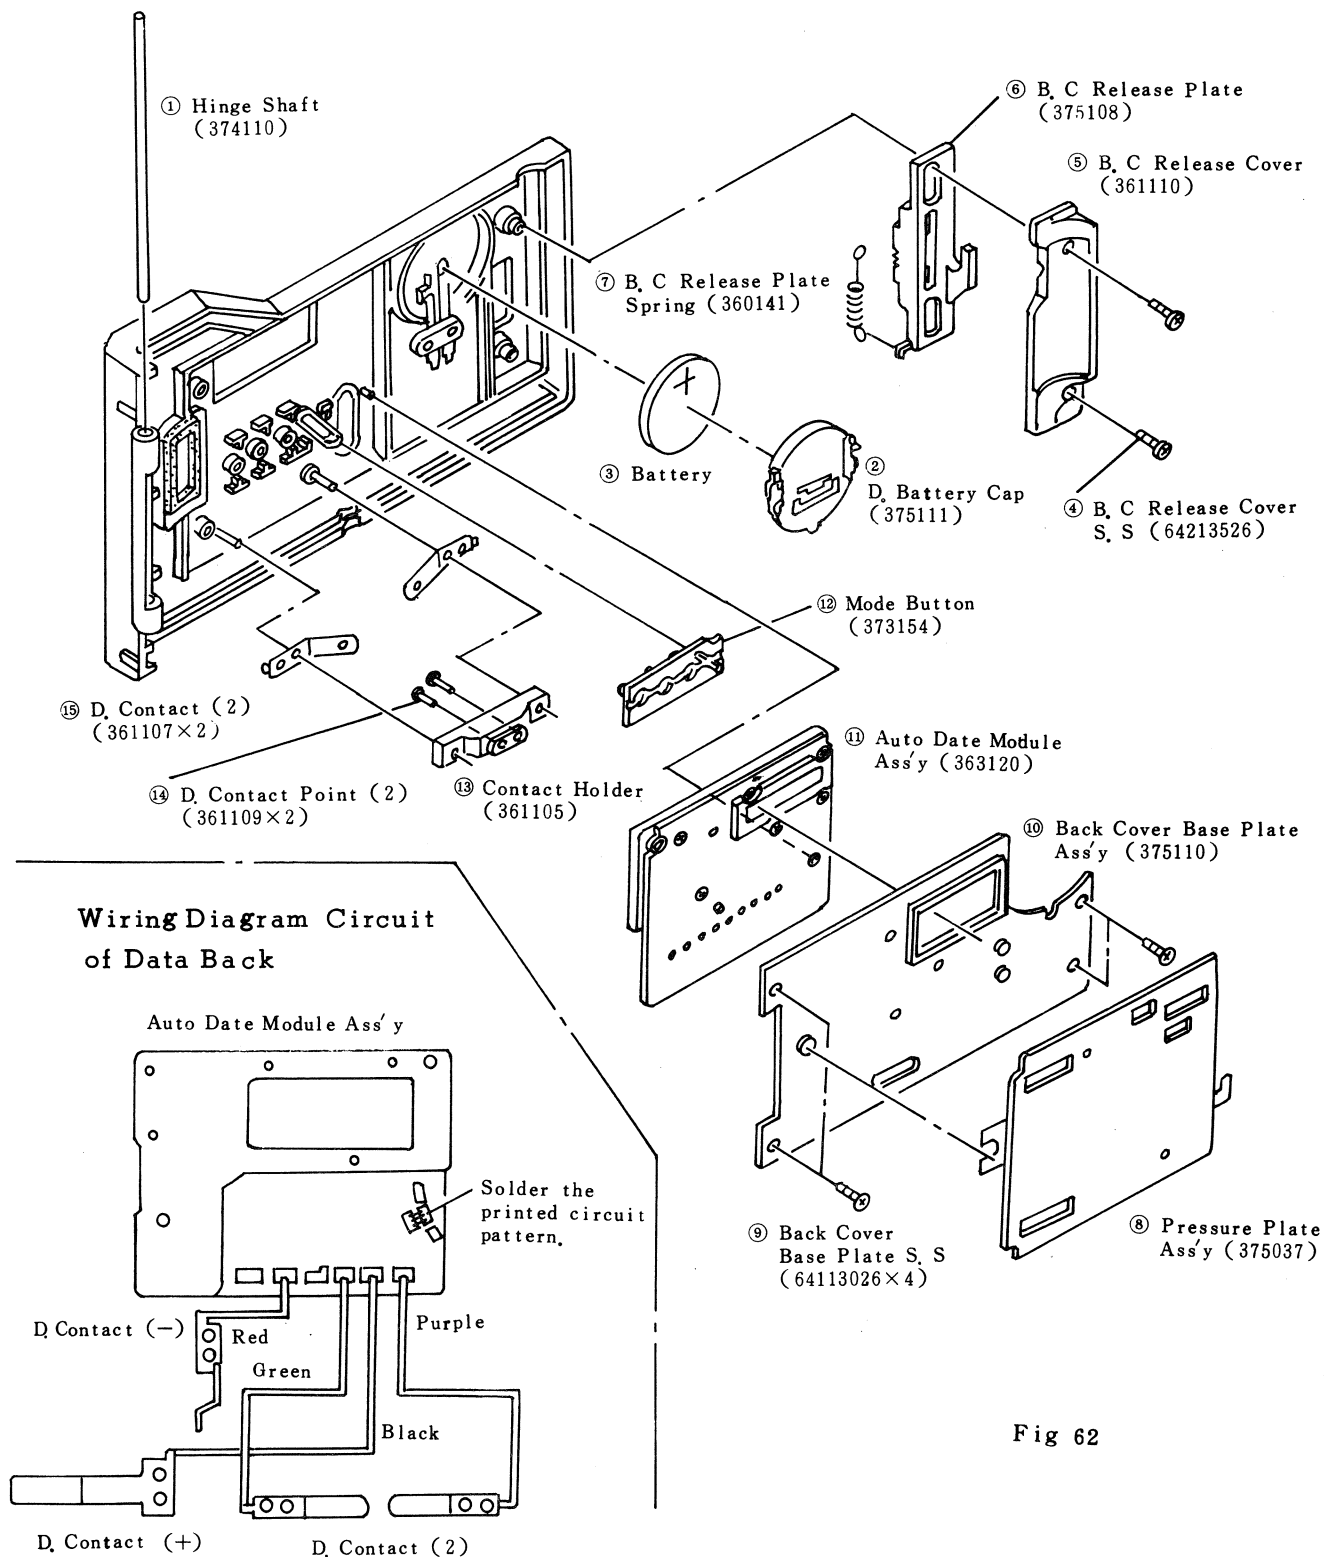

Fig 62
- 1) Remove the respective parts ① ~ ⑮ shown in (Fig 62) in numerical order and unsolder four lead wires (Red, Black, Green and Purple) as shown below.